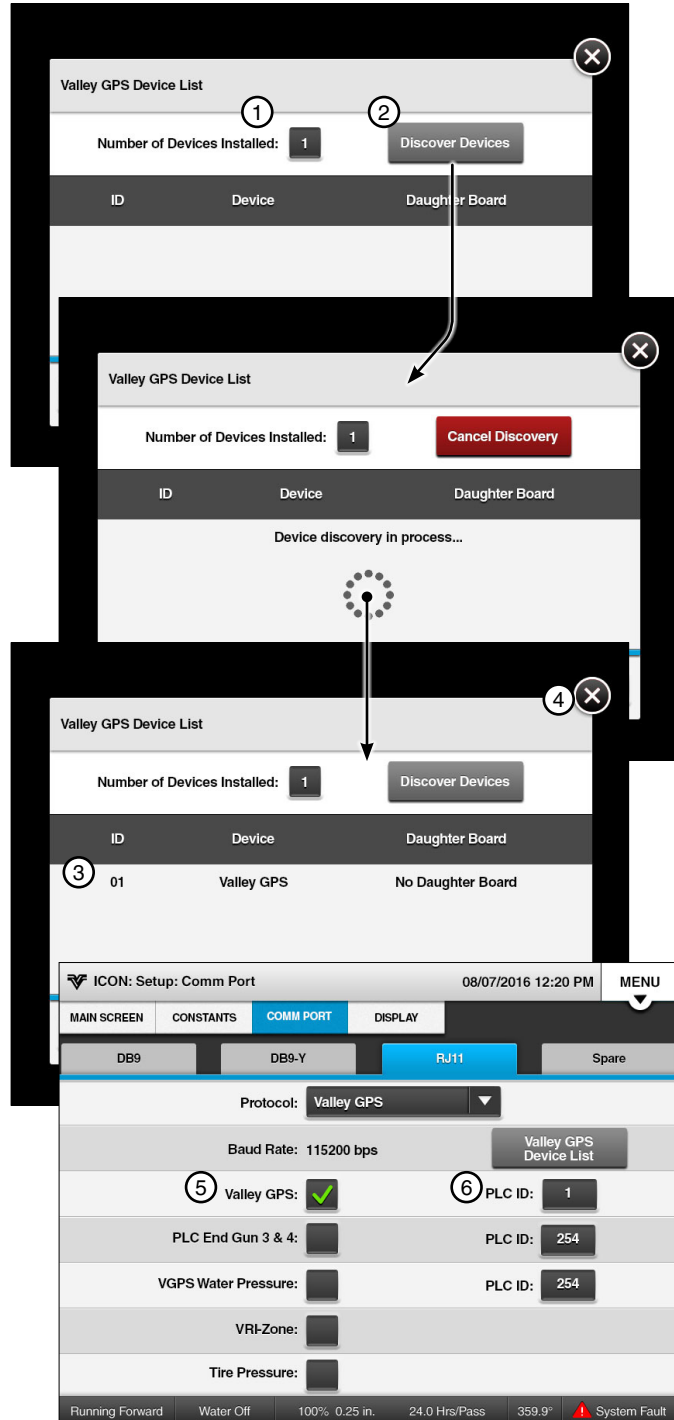

Figure 42-1
- (v) Enter the Number of Devices Installed. See Figure 42-1.